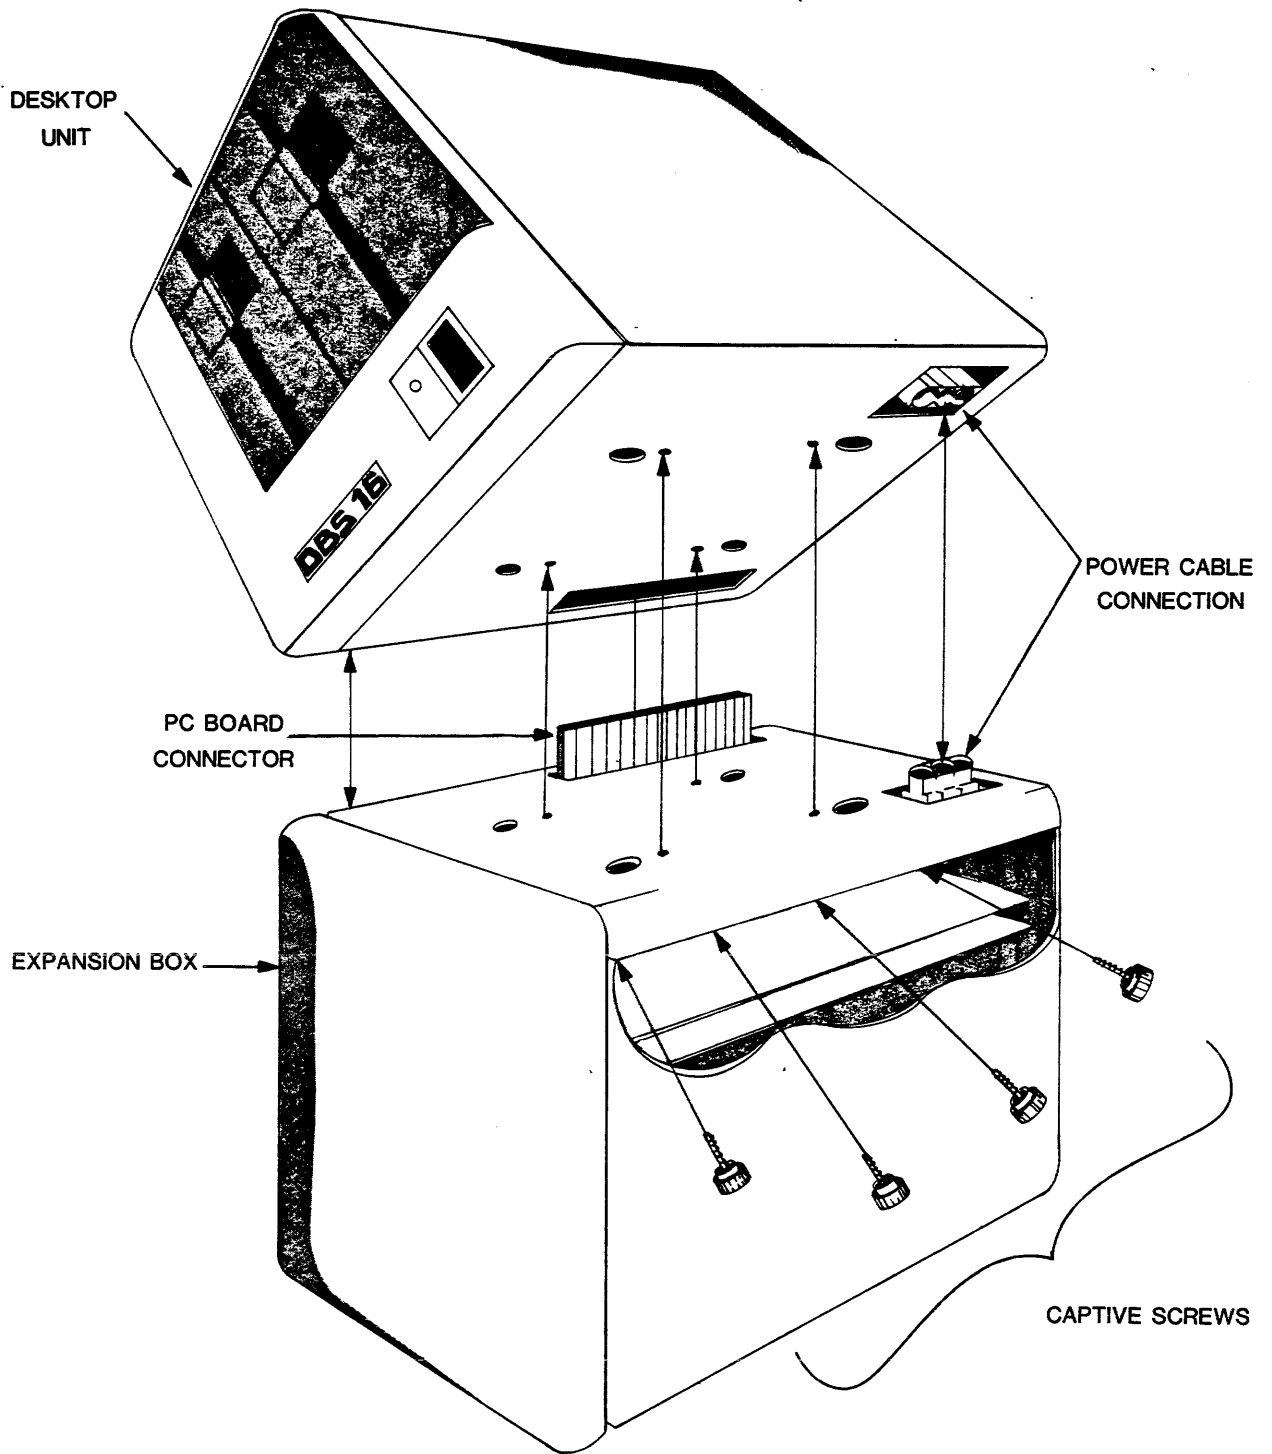

Figure 2-6. Connecting the Desktop Unit and the Expansion Box
8. Align the bottom of the Desktop Unit (still on its side) with the top of the Expansion Box (also on its side). Make sure the front of each unit is facing you (see Figure 2-6).